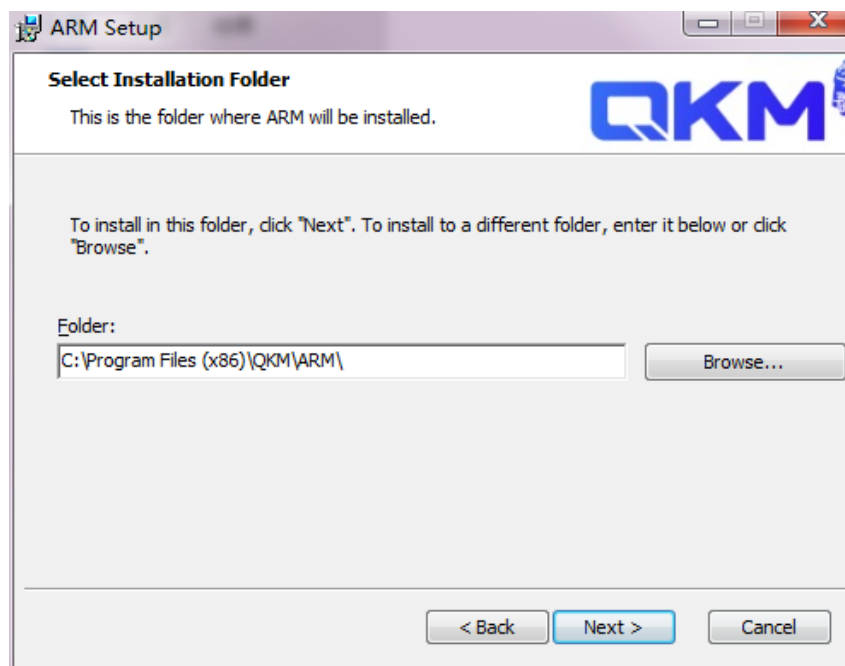

Figure 6-3 Choose installation path
**Step 3** Click on "Next", as shown in Figure 6-3.